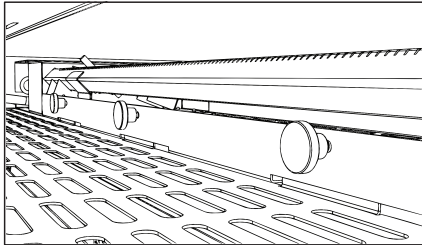

FIGURE 8
4. Locate and remove the thumb screws shown in Figure 8 and 9 securing the SBI in place. **DO NOT** remove any other screws from the barbecue. It is potentially dangerous.